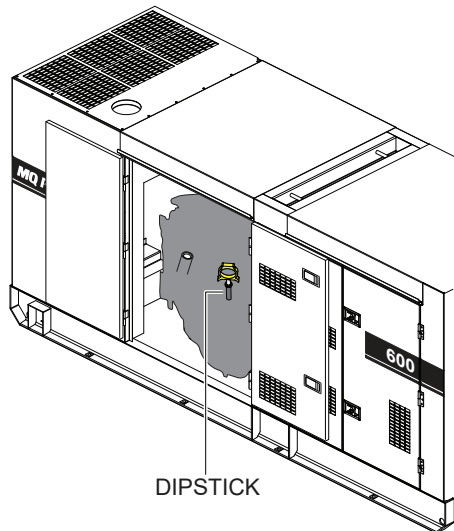

Figure 23. Engine Oil Dipstick
2. Remove the **dipstick** from its holder (Figure 23) and wipe it clean.